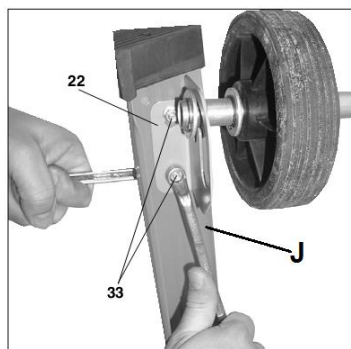

Fig.4
Working from the inside, fit the mounting for the chassis (22) to the rear legs (J) with 4 screws (33). Fig.4